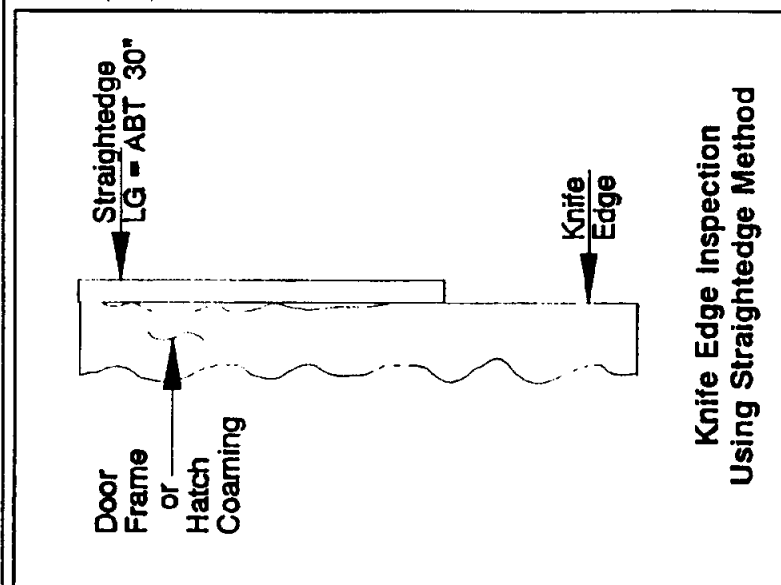

Figure 6
- (30) Knife-edge and door frame assessment.
- (a) Open the fitting. Assess the knife-edge for straightness and/or warpage using a straightedge and two lengths of string. See figures 6, 7, and 8. The maximum acceptable variation for knife-edge straightness is plus or minus 1/8 inch. The maximum acceptable warpage of the door frame is 1/4 inch. If frame/coaming warpage is excessive, or if the knife-edge straightness is not within tolerances, initiate action to replace the closure.
- (31) Operate door through open,close cycle and assess for binding or excessive play in connecting rod linkage. Binding is caused by bent connecting rods, or excessive stick packing in dog spindle, sleeves. Excessive play indicates worn connecting rod bushings and/or loose/worn connecting rod studs.
- (32) Assess operation handle for excessive play. With door open, firmly grasp inside handle (on the linkage side) and hold stationary in maximum open position while moving outside handle towards closed position. Excessive play exists if outside handle obstructs the clear opening, or interferes with swing of door panel.
- (33) Assess for worn dog spindle bushings and operating handle spindle bushings. Grasp each spindle and attempt to shake it up and down, and side to side. If movement occurs, then bushings are worn.
- (34) Assess for seized bushings. Check each dog assembly by pushing the dog in and out. Straight bushing should move freely and should spring back to rest against the back of the dog. (Q/A doors should have handle in closed position with door open to check dog assemblies.)
- (35) Perform chalk test procedure for standard closures with slab-gasket/knife-edge and bevel-edge seals.